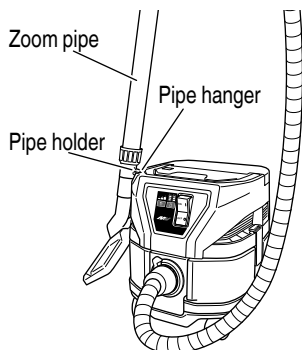

Fig. 25
(4) Storing the appliance during breaks (Fig. 25)